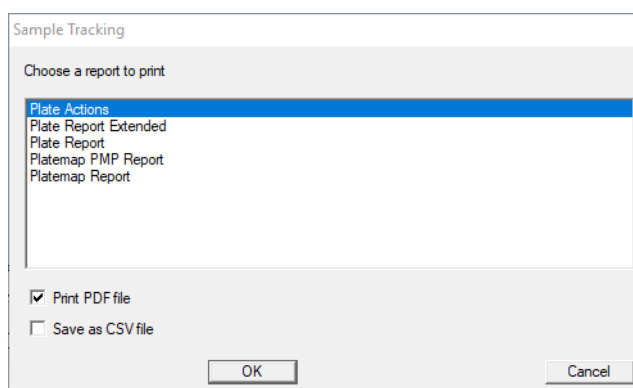
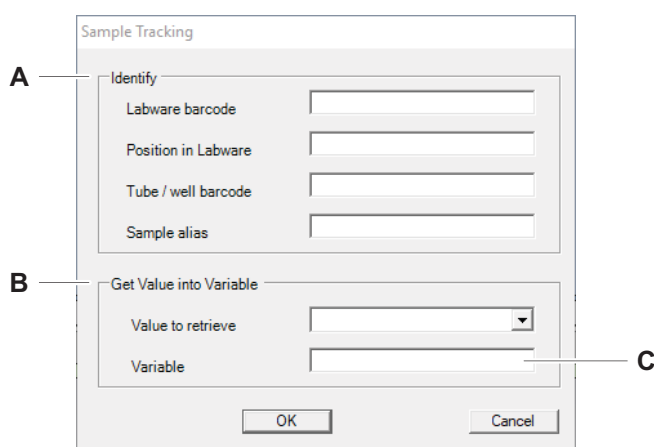

Fig. 5-19 Sample Tracking; Choose a report to print screen
Fig. 5-23 Sample Tracking get value screen
- 2 Edit the identification information in the Identify section (A) Fig. 5-23, Fig. 5-19.
- 3 Select the value to be retrieved from the dropdown list (B) in the In the Get Value into Variable section Fig. 5-23, Fig. 5-19.
- 4 Edit the name of the existing script variable into text field (C) Fig. 5-23, Fig. 5-19.